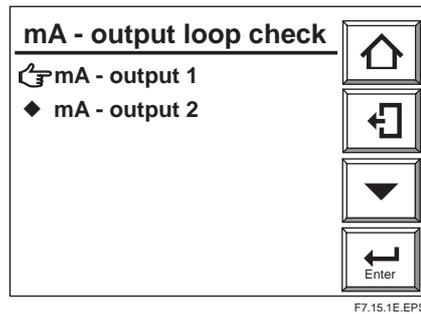

Figure 7.15.1 "mA-output loop check" Panel Display
- (1) Press the Setup key on the basic panel display to display the Execution/Setup display. Then select Maintenance in the Execution/Setup display.
- (2) Select "mA-output loop check" in the Maintenance panel display to display the "mA-output loop check" display, enabling you to check "mA-output1" and "mA-output2." Select the desired output terminal for current-loop checking (see Figure 7.15.1).
- (3) At the time of entering the numeric-data entry display, the output current will change to 4 mA (default value). If the desired current is entered, the corresponding output will be provided.